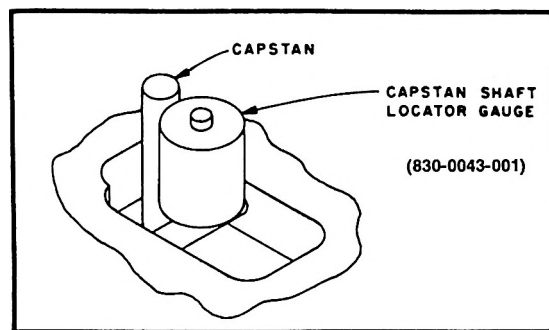

Figure 3-2
1. Remove the pressure roller and place the special locator gauge (830-0043-011) over the pressure roller shaft as illustrated in Figure 3-2. Manually move the gauge up to (against) the capstan shaft. Check to see that the gauge surface lies flat against the capstan shaft. If not, loosen the motor mounting screws, and gently move the motor until the gauge surface and the motor shaft are "flat" against each other.
2. Starting with the bottom deck, remove the pressure roller and place the special locator gauge (830-0043-001) over the pressure roller shaft as illustrated in Figure 3-2.